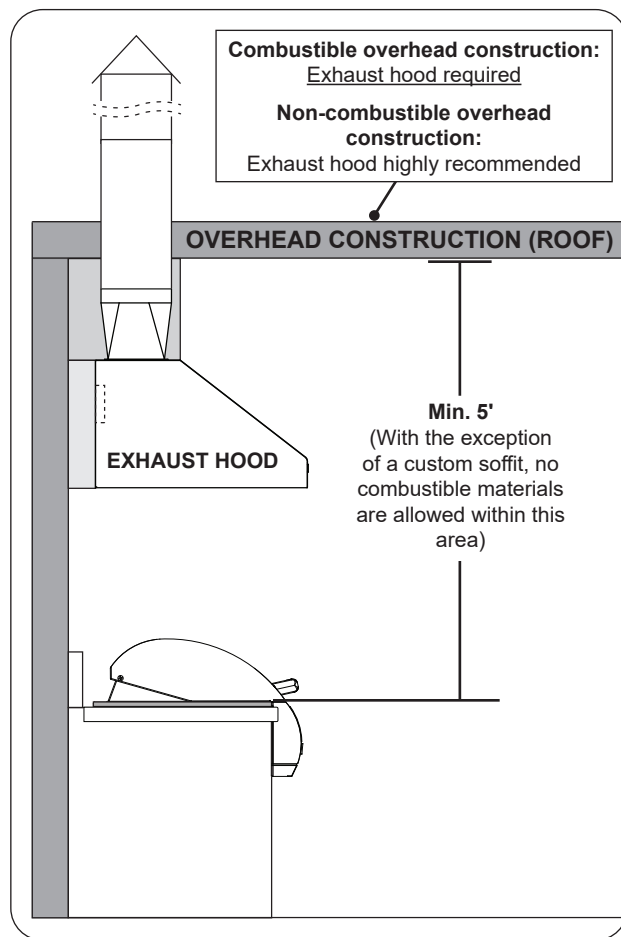

Fig. 16-1 Overhead (roof) requirements
- **An exhaust hood is required.** A minimum 5 foot clearance is required between the countertop and the overhead construction. (No combustible materials are allowed within this area.) See Fig. 16-1.
- An exhaust hood is highly recommended. A minimum 5 foot clearance is required between the countertop and the overhead construction. (No combustible materials are allowed within this area.) See Fig. 16-1.